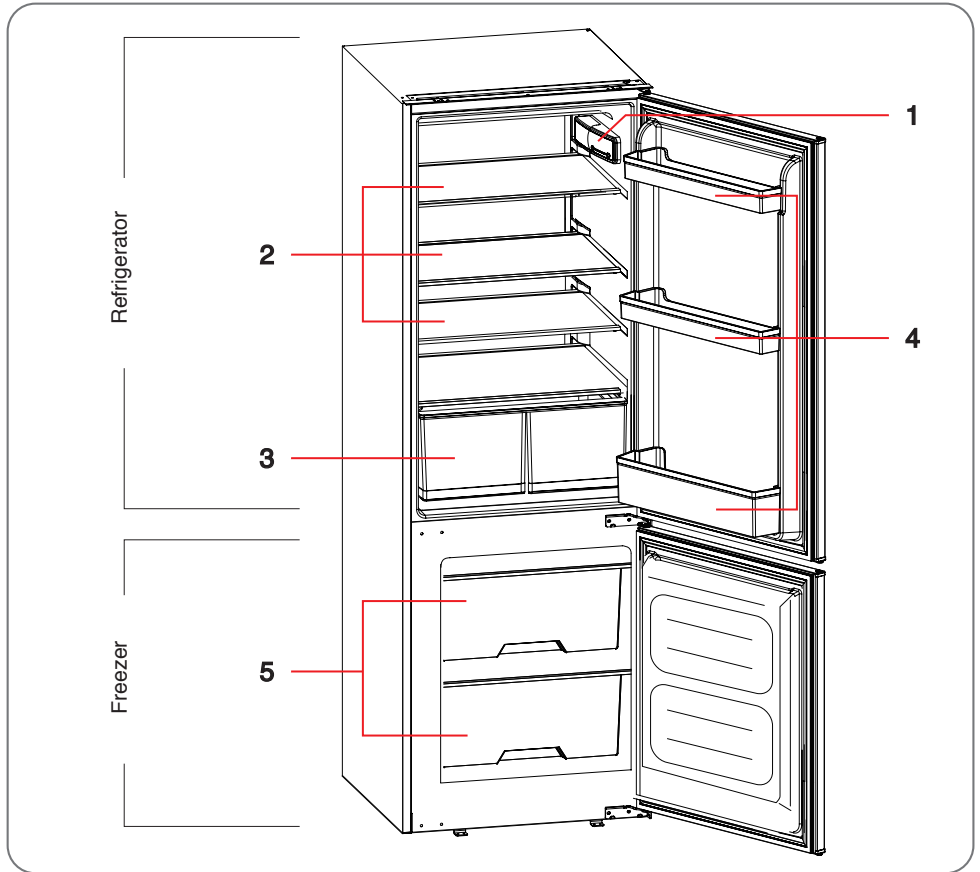

Fig. 4.1
- The temperature control panel is inside the appliance, at the centre (1, Fig.4.1).
- To turn on the appliance, press and hold the “Power” button (A) for 3 seconds; the indicator light will come on when the power is on.
- Press the “Adjust” button (B) to adjust the temperature inside the compartment; the number on the panel will begin to flash. After you release the button, the number will continue to flash; after 5 seconds, it will stop flashing, and the selected temperature will be automatically confirmed. Repeat the operation until you reach the desired level. The temperature adjustment ranges from “1” to “5” (C).
- To turn off the appliance, press and hold the “Power” button (A) for 3 seconds. The indicator light will turn off, and then the refrigerator and interior lighting will be deactivated.